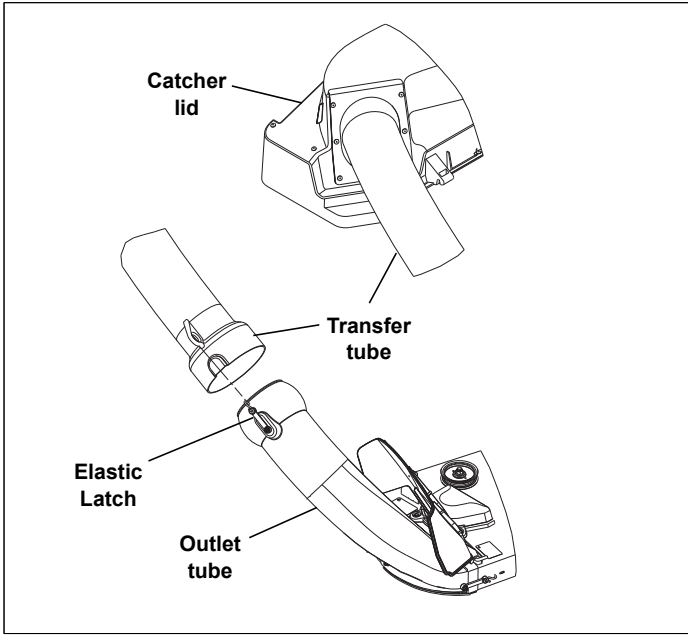

Figure 3-17
20. Slide the end of the transfer tube into the opening in the catcher lid. Figure 3-17